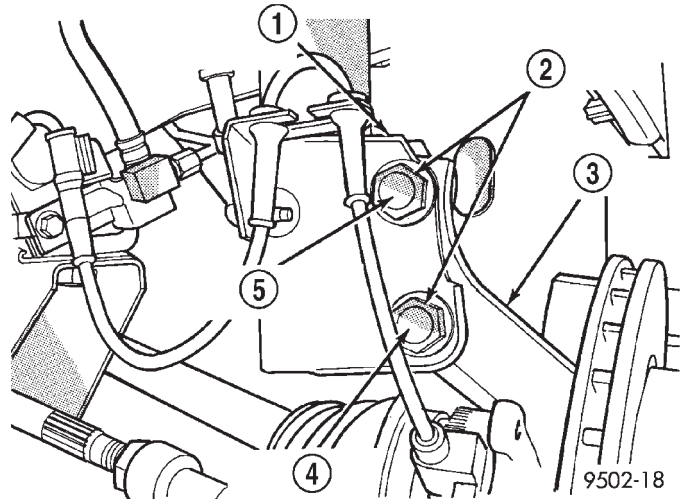
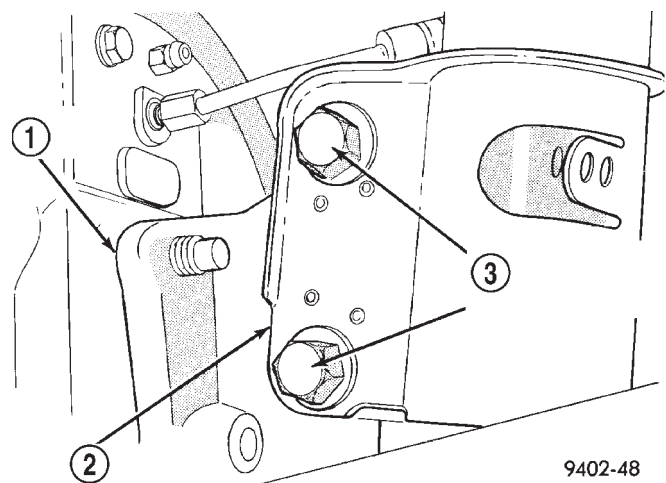

Fig. 2 Front Strut Clevis Bracket Attaching Bolts
Fig. 3 Rear Strut Clevis Bracket Attaching Bolts
(2) Remove the original upper bolt attaching the strut clevis bracket to the knuckle (Fig. 2) (Fig. 3).